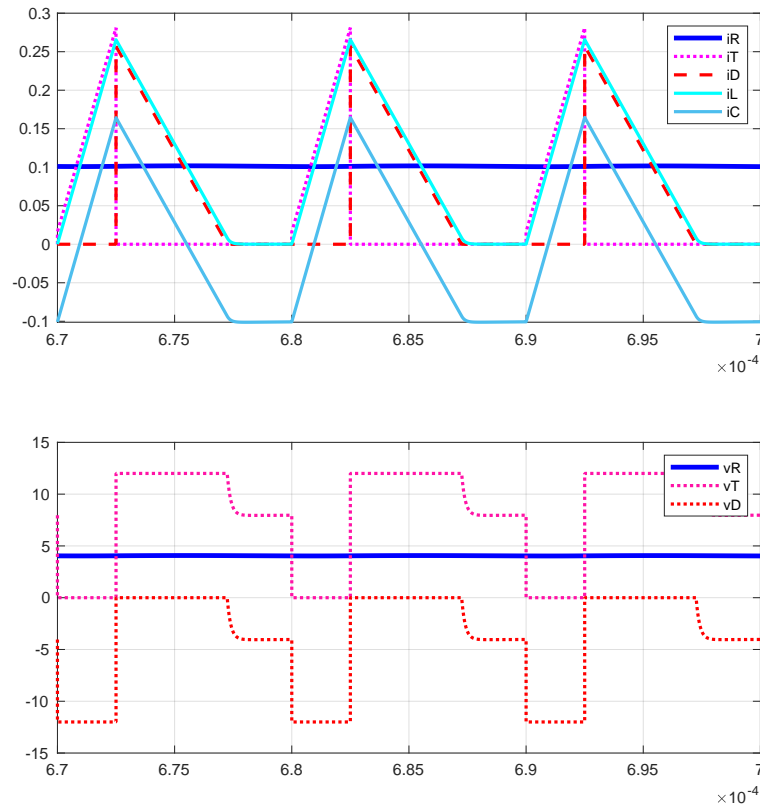

FIGURE 1.1 – Result with $40\ \Omega$ load resistance
a) We set the resistance at $40\ \Omega$ which gives Figure 1.1.